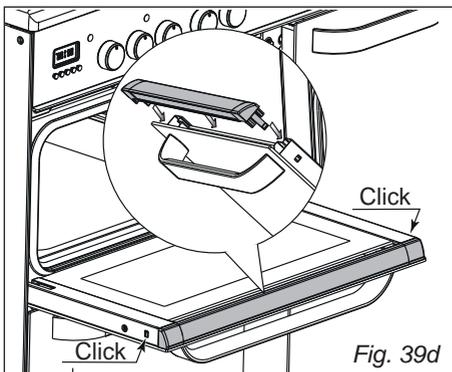

Fig. 39d
- Gently push the glass retainer back into place. You should be able to hear the tabs on both sides click as they lock the glass retainer in (fig. 39d).